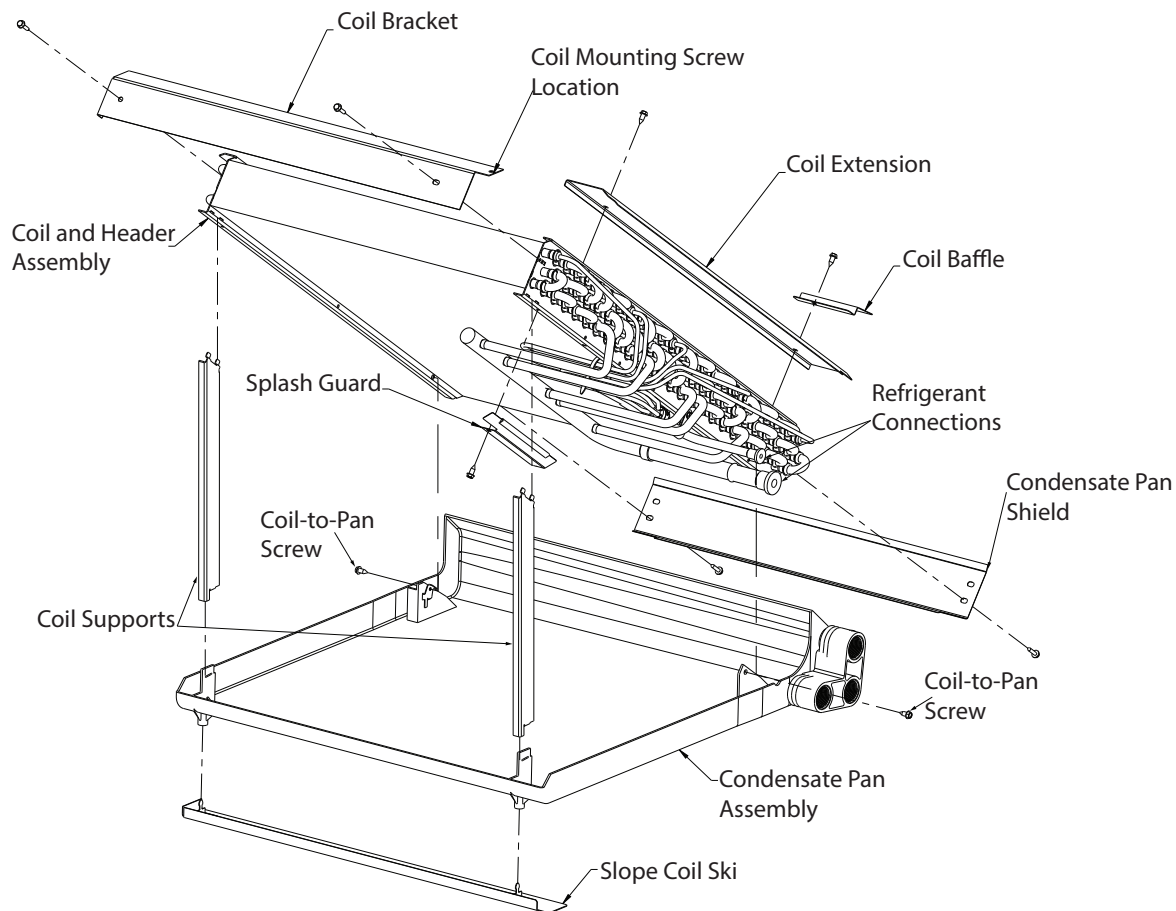

Fig. 26 – Slope Coil Component Location
10. Remove two screws securing coil to condensate pan (Fig. 26).
12. Attach new painted Top Seal to new coil using brass colored screws included with packaging (Fig. 26).
13. Remove screw at bottom of coil extension and reuse to attached Coil Baffle in same location. Long side of baffle toward pan (Fig. 26).